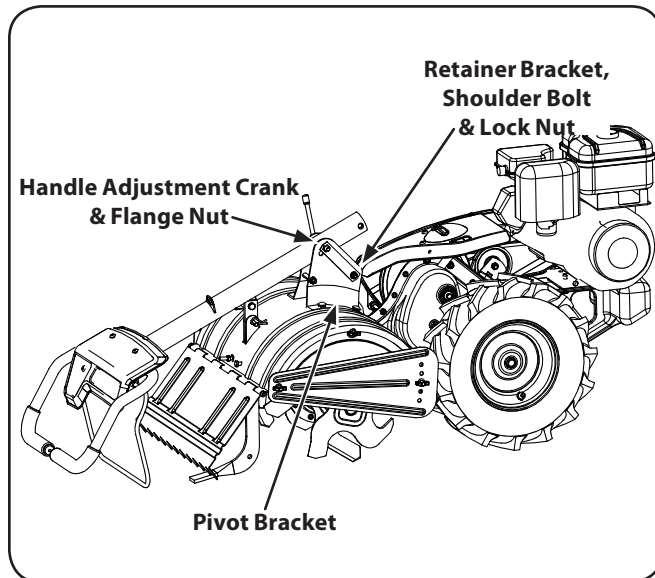

Figure 3-2
2. Place the handle assembly into position in the handle pivot bracket by lining up the upper holes in the handle with the slots in the pivot bracket. See Fig. 3-2.